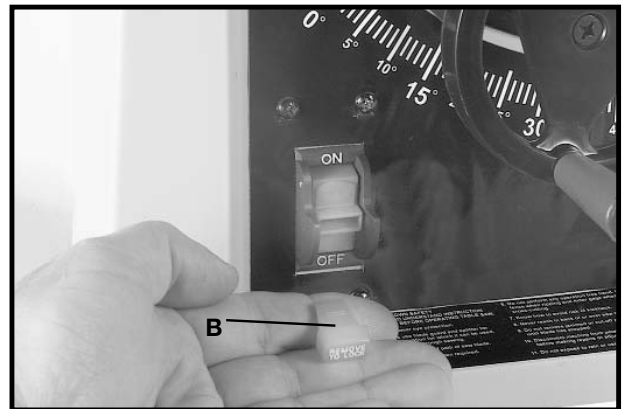

Fig. 30
**IMPORTANT:** When the tool is not in use, the switch should be locked in the "OFF" position to prevent unauthorized use. To lock the tool, grasp the switch toggle (B) and pull it out of the switch (Fig. 30). With the switch toggle (B) removed, the switch will not operate. However, should the switch toggle be removed while the saw is running, the machine can be turned "OFF," but cannot be restarted without re-inserting the switch toggle (B).